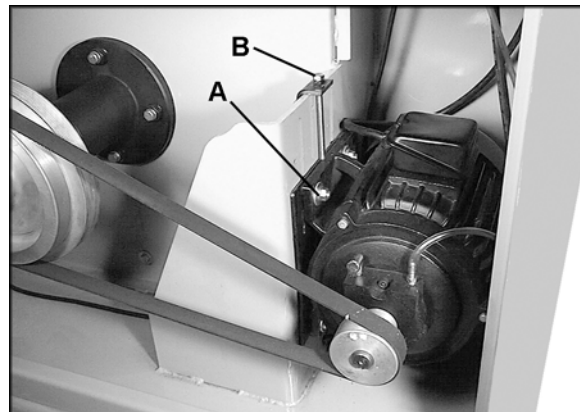

Figure 23
3. Loosen the four hex nuts on the motor plate (A, Figure 23).
4. Turn the tension screw (B, Figure 23) counterclockwise to reduce tension (for example, to remove the belt) or clockwise to increase the tension on the belt.
6. Tighten the hex nut on the tension screw (B, Figure 23) and tighten the four hex nuts (A, Figure 23).
1. Loosen the four hex nuts (A, Figure 23)
4. Re-tighten the four hex nuts (A, Figure 23).
2. Loosen the four hex nuts (A, Figure 23) and rotate the tension screw (B, Figure 23) counterclockwise to release tension on the belt.
4. Re-tension the belt (see under “Belt Tension”) and securely tighten all four hex nuts on the motor plate (A, Figure 23).